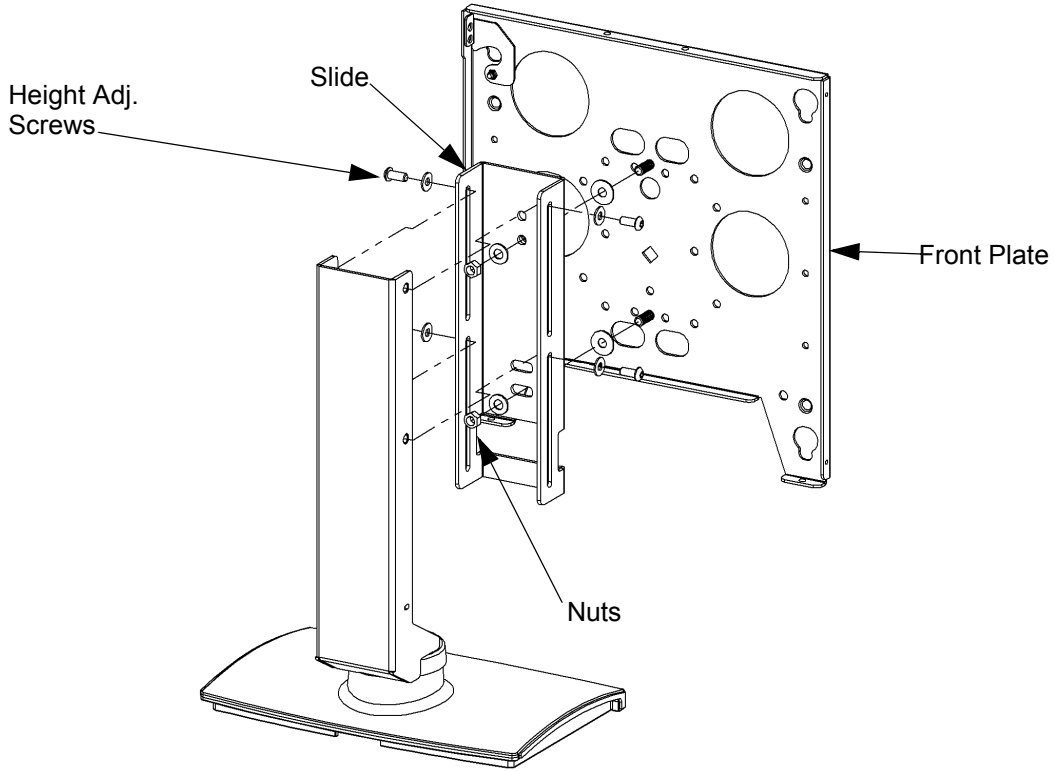

Figure 8. Stand Assembly
1. Remove the slide from the base by removing four height adjustment screws (see Figure 8).
2. Remove the front plate from the slide by removing two nuts securing the front plate (see Figure 8).
4. Install the slide on the base using the four height adjustment screws (see Figure 8).